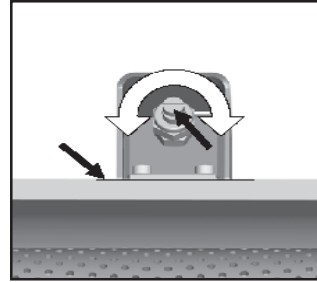

Figure 3
1. Tighten the Lock Nut on to the spray tip, while aligning the slot in the spray tip with the front edge of the deck (figure 3).